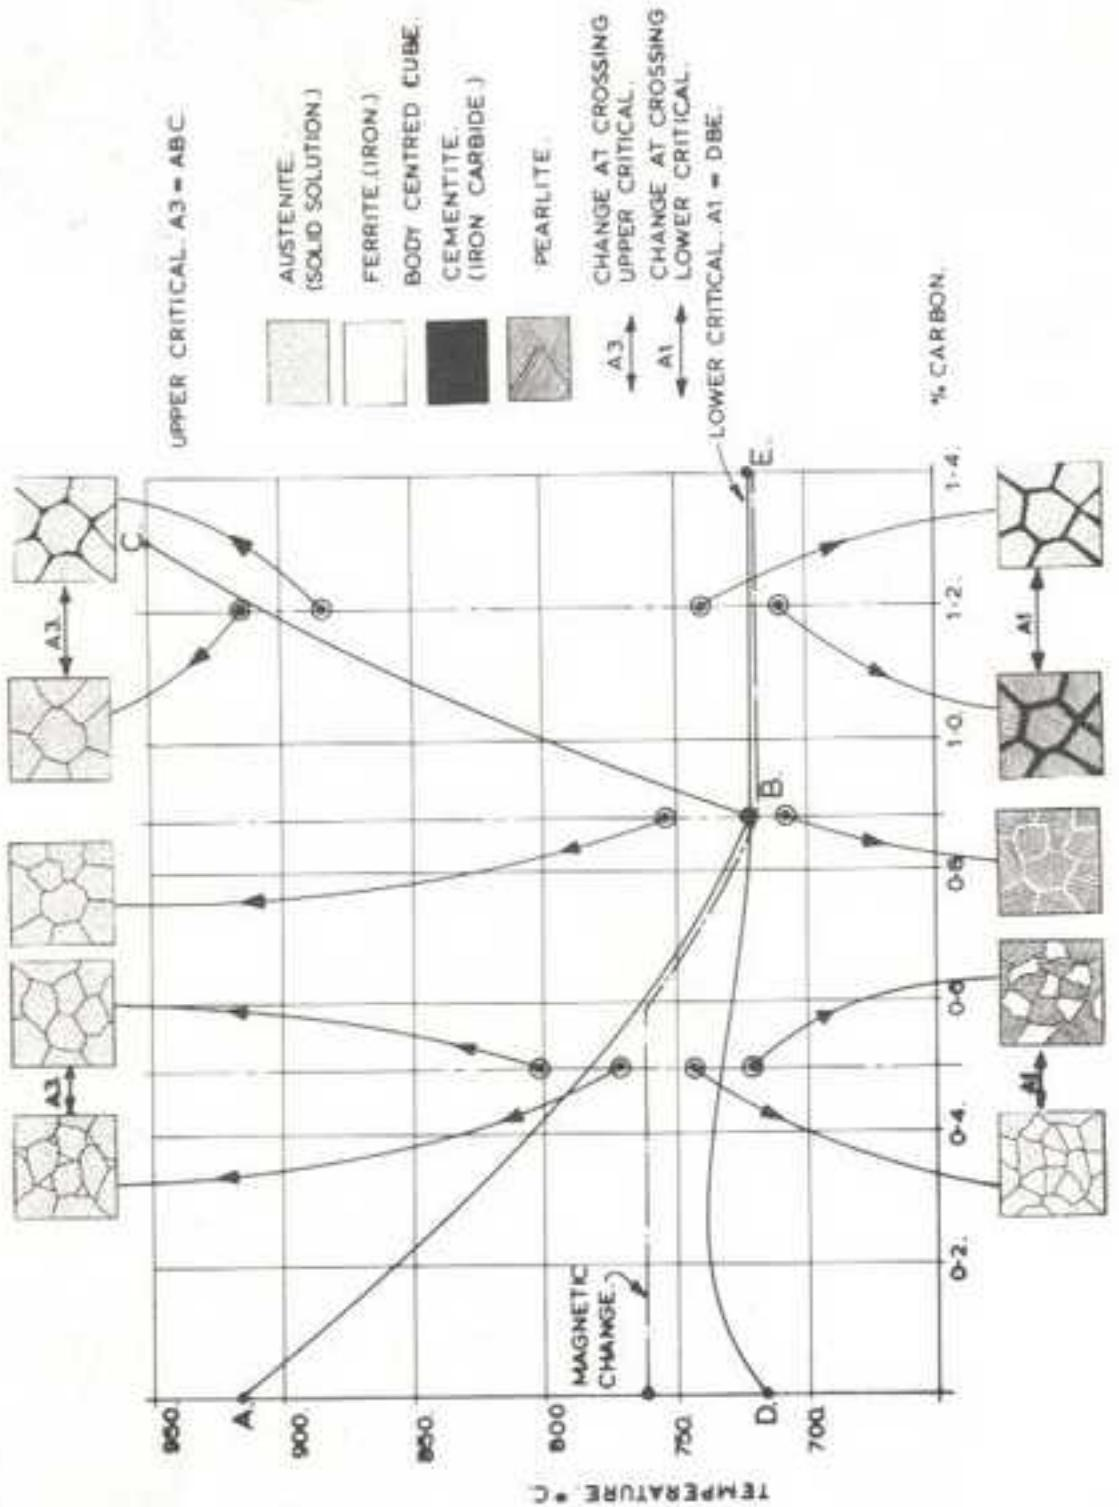

Fig. 13 A simplified version of the "Iron-Carbon Equilibrium Diagram." (After "Quenching Fluids and the Heat Treatment of Steel") Courtesy BP Ltd.
Diagram", which shows the effects of both carbon and temperature. I have made a simplified version of this in Fig 13; this deals only with "steel" (the full diagram includes cast iron as well) and I have not bothered with the temperatures up in the melting range. Those sufficiently interested will find the complete diagram in most books on the Metallurgy of Steel, but there is a very clear one in Encyclopedia Britannica, in the section headed "Iron and Steel". This can be looked at in most public libraries.
alloying elements. The diagram (Fig.13 on page 18.) is drawn for "plain" carbon steel, but each alloy will have a different characteristic equilibrium diagram, some very complex indeed.
Almost all carbon tool-steels these days contain about 0.35% of Manganese, its main purpose being to counteract the effects of the impurity Sulphur. At this level the effect on fig.13 and hence on the heat treatment is negligible. When present in higher amounts - 1% or more - the steel needs special treatment. A few tool-steels ("Silver" Steel is one - it contains no silver, by the way; the name refers to its appearance!) include about 0.5% of Chromium, partly to help in refining the grain size but also to improve "through hardening". At this level there is some slight effect on the shape of the diagrams, including the "S" curve, but no special treatment is needed. The quenching temperature is slightly different, that is all. These steels are essentially "carbon" steels with *additives* to improve performance.
As the alloy content rises, however, and, more especially, when a combination of alloying elements is used, then the equivalent diagrams to Figs. 13 and 15 become very complicated indeed. (Chromium, for example, forms a very hard carbide on its own). When faced with a steel containing more than about 0.6% of any of these elements (and they can be Nickel, Chromium, Cobalt, Vanadium, Tungsten, Molybdenum, Titanium and others) the answer to the heat treatment problem is, for the model engineer, "**DON'T!**" A nice piece of 3% nickel 0.3% carbon steel will (if you are *sure* it is EN21) make excellent connecting rod bolts, but unless you have the exact heat treatment data it is best left in the "as supplied" state. Even more so if you come across any of the higher alloyed steels -
**The Right Temperature.** At first sight it might be assumed that we need to take the metal up to above the upper critical temperature — the line ABC of Fig 13, — but this is not the case. First (for high carbon tool-steels, that is) we do need some "Free Cementite" when we quench, and this does not appear until the metal has fallen below the upper critical temperature. Second, experience shows that the grain size is more favourable if the metal is quenched from a lower temperature. As a general rule steels having 1% carbon content or more are quenched from below the upper critical and those below 0.9% from above it. This is a "general" rule — there may be special reasons for departing from it — and one consequence is that the quench temperature does not vary much over the whole range of carbon content. Note that for heat treating OTHER than for pure hardening this may not apply — see Ch.VII.